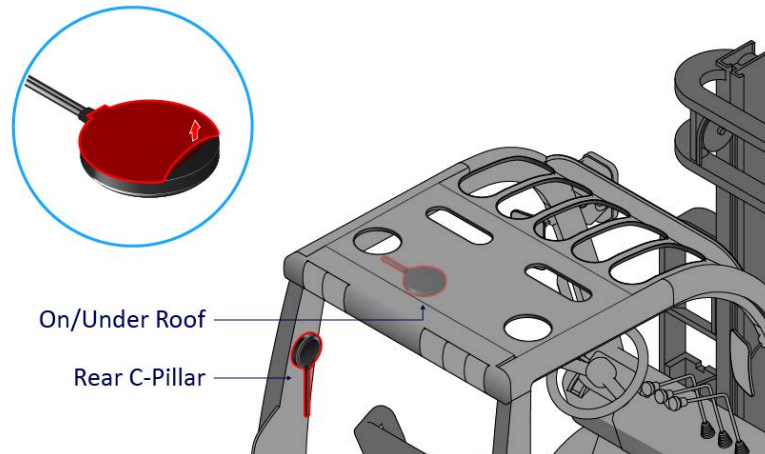

Figure 20: Wi-Fi/GPS antenna installation
2. VIA recommends installing the antenna on either one of the rear C-pillars or under the roof of the forklift as shown in Figure 20.